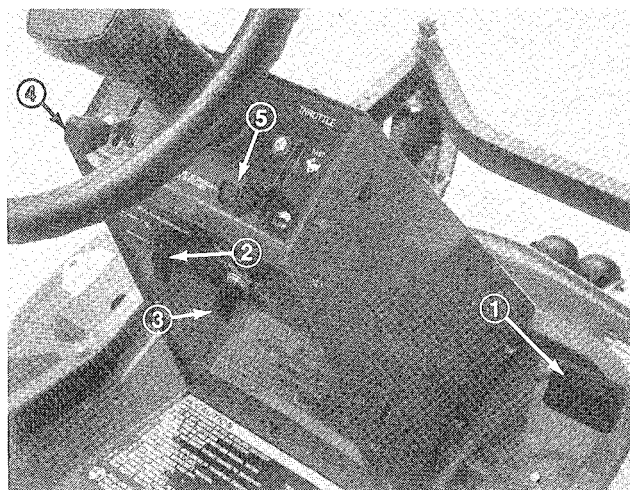

Figure 11
**Traction Pedal (Fig. 11)** – Traction pedal has two functions: one is to make the machine move forward, the other is to make it move rearward. Using the heel and toe of the right foot, depress top of pedal to move forward and bottom of pedal to move rearward. Ground speed is proportionate to how far pedal is depressed. For maximum ground
**PTO Switch (Fig. 11)** – The PTO switch has two positions: ENGAGE and DISENGAGE. Toggle switch releases blade brake and engages electromagnetic clutch to drive deck pulleys.
**Ignition Switch (Fig. 11)** — The ignition switch, which is used to start and stop the engine, has three positions: OFF, RUN and START. Rotate key clockwise — START position — to engage starter motor. Release key when engine starts. The key will move automatically to the ON position. To shut engine off, rotate key counterclockwise to the OFF position.
**Choke (Fig. 11)** — To start a cold engine, close carburetor choke by moving choke control forward to the ON position. After engine starts, regulate choke to keep engine running smoothly. As soon as possible, open the choke by pulling it rearward to the OFF position. A warm engine requires little or no choking.
**Throttle (Fig. 11)** — Throttle is used to operate engine at various speeds. Moving throttle forward increases engine speed — FAST; rearward decreases engine speed — SLOW. The throttle control, in conjunction with traction pedal, controls ground speed of the machine.